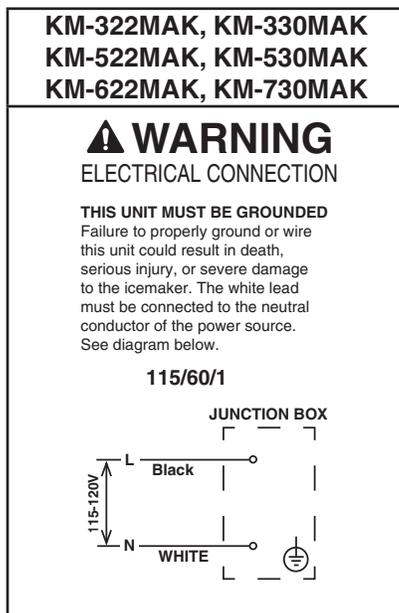

Fig. 3a
- Electrical connection must be made in accordance with the instructions on the "WARNING" tag, provided with the pig tail leads in the junction box. See Figs. 3a and 3b.